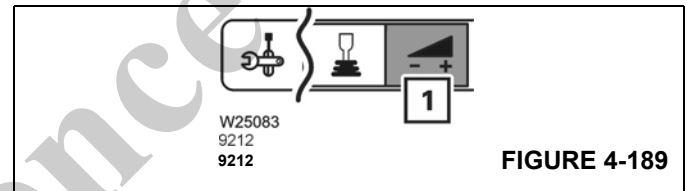

FIGURE 4-189
Select and confirm the symbol (1), (Figure 4-189).